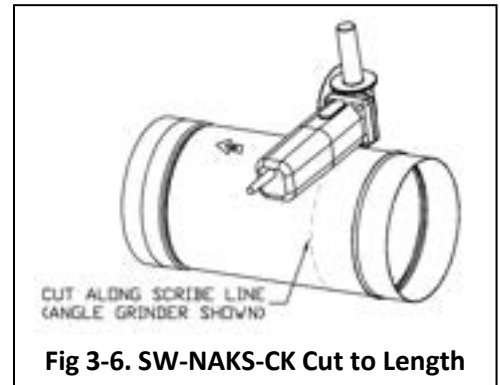

Fig 3-6. SW-NAKS-CK Cut to Length
4. Using this line as a guide, cut and remove the extra material from the Male End. Deburr all cut edges (See Fig 3-6).